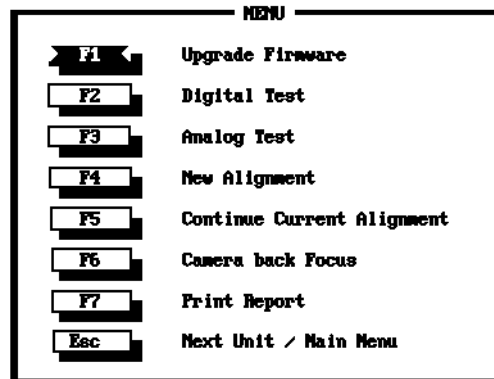

Figure 5-29. Test menu
6. Type the serial number of ProPalette unit being calibrated and press Enter to display the test menu (Figure 5-29).